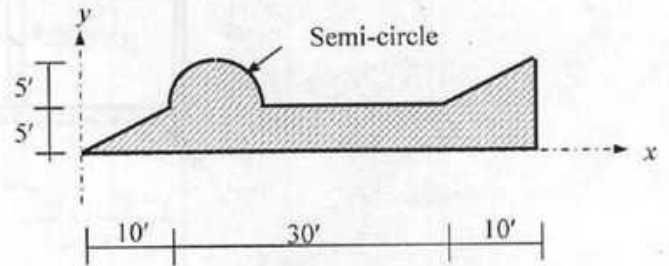

Figure-2
13. Find the centroid of the composite Area shown in Figure-2.
14. Calculate the moment of inertia and radius of gyration of the composite area shown in Figure-2 about its centroidal axis (X & Y).